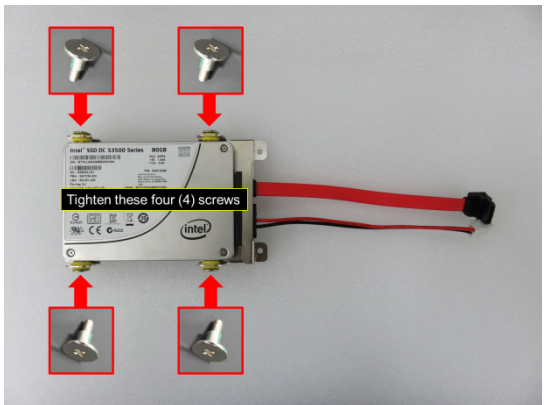

Figure 21
- 4.2.2.8 Use a Phillips screwdriver (item 1 in Table 2) to tighten the screws (4 nos.) to secure the HDD/SSD to the tray as shown in Figure 21.